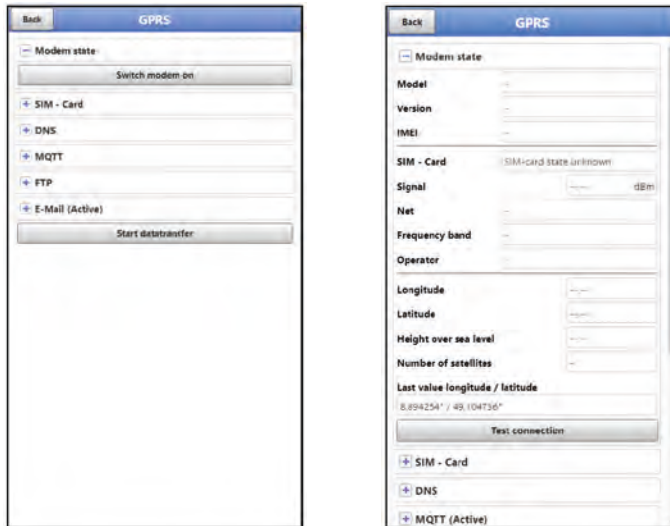

Fig. 41-3 Modem state / SIM-Card state
2. Wait until the device has found and entered the correct GPS coordinates (latitude/longitude) in the menu (see Fig. 41-3 pict. 2). This may take up to several minutes.